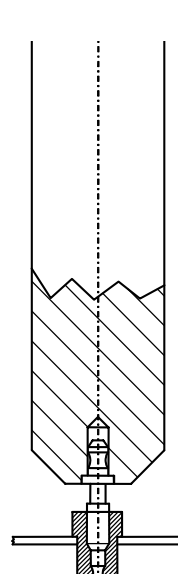
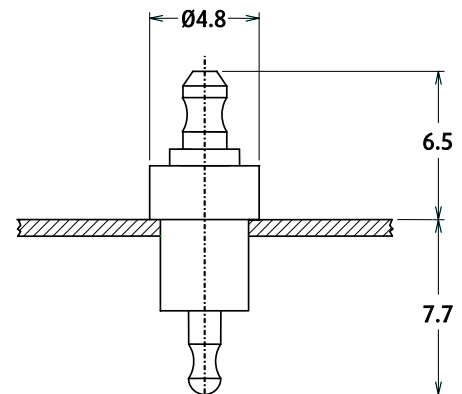

Figure 3
Figure 4
3. Locate the Hand Tool over the top of the Terminal, and push down firmly in the vertical direction, as shown in Figure 3. When fully assembled, the Terminal should meet the dimensions shown in Figure 4.